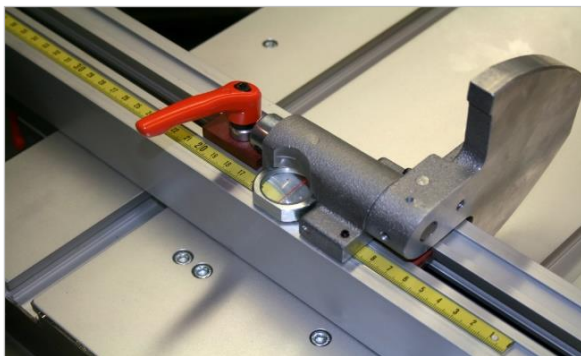

Figure 66: Flip stop (left to the saw blade)
- Move the flip stop on the rip fence to the dimension previously set on the cross-cut fence (⇒ Figure 66).